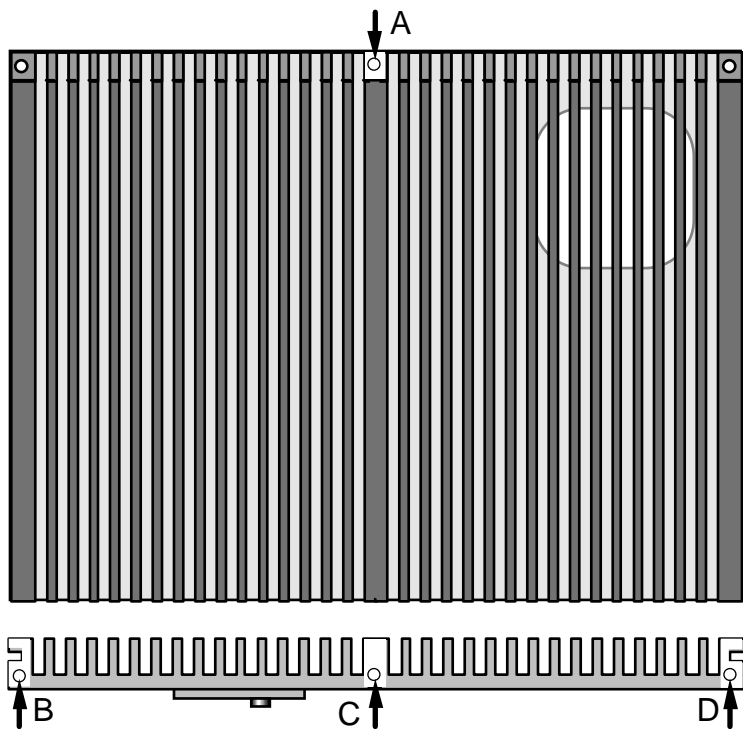

Figure 34
- Using sand paper, remove the heat sink's black finish at the four areas shown in white in Figure 34. **At point A, be very careful to sand only on the narrow shelf, not on the tops of the fins.**